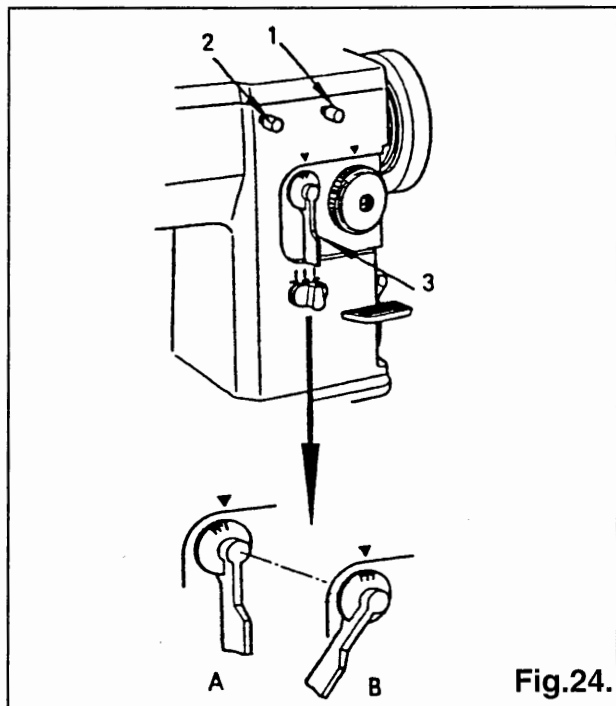

Fig.24.
To obtain minimum to maximum width (20U73/73B:9mm. 20U83/83B:12mm) zigzag stitches, first loosen thumb screw (2),Fig.24. to permit the stitch width regulator (3), Fig.24 to return to its zero position (see A, Fig.24) and retighten thumb screw (2).
Then loosen thumb screw (1),Fig.24. turn stitch width regulator (3) clockwise as far as it will go and while holding the regulator (3) in this position (see B, Fig.24), retighten thumb screw (1).